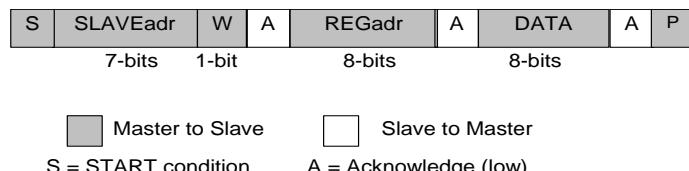
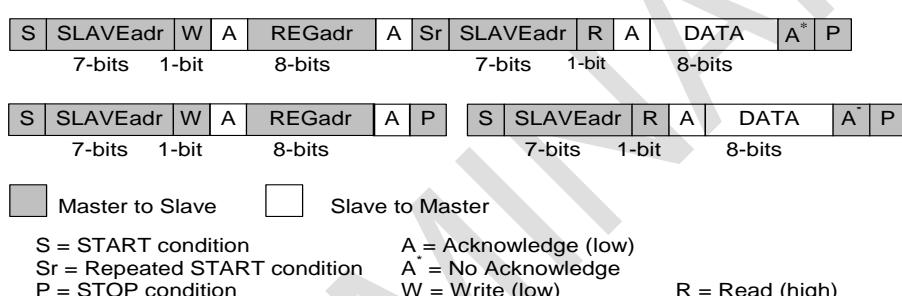

Figure 14: I²C Byte Write (SDA Line)
Figure 15: I²C Byte Read (SDA Line) Examples
The I²C bus is monitored for a valid slave address whenever the interface is enabled. It responds immediately when it receives its own slave address. The acknowledge is done by pulling the SDA line low during the following clock cycle (white blocks marked with A in Figure 14 and Figure 15).
The protocol for a register write from master to slave consists of a START condition, a slave address with read/write bit, and the eight-bit register address followed by eight bits of data, terminated by a STOP condition. DA9132-A responds to all bytes with acknowledgement (A), see Figure 14.
When the host reads data from a register it first has to write to DA9132-A with the target register address and then read from DA9132-A with a repeated START, or alternatively a second START, condition. After receiving the data, the host sends no acknowledgement (A*) and terminates the transmission with a STOP condition, see Figure 15.